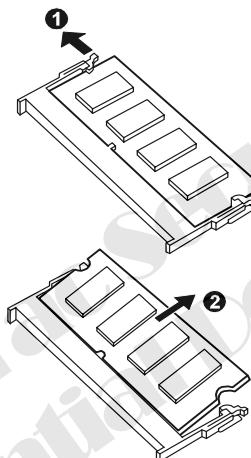

Figure 2-15 Remove the SO-DIMM
3. Pull the retaining clips outwards (①) and remove the SO-DIMM (②). (Figure 2-15)